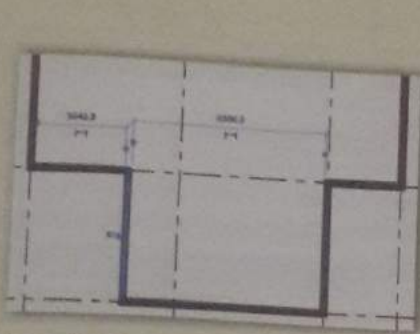

Figure 50: Temporary Dimension.
17. Select the bottom left side wall and set the inner dimension to 6500 by editing the temporary dimension. (Figure 50).